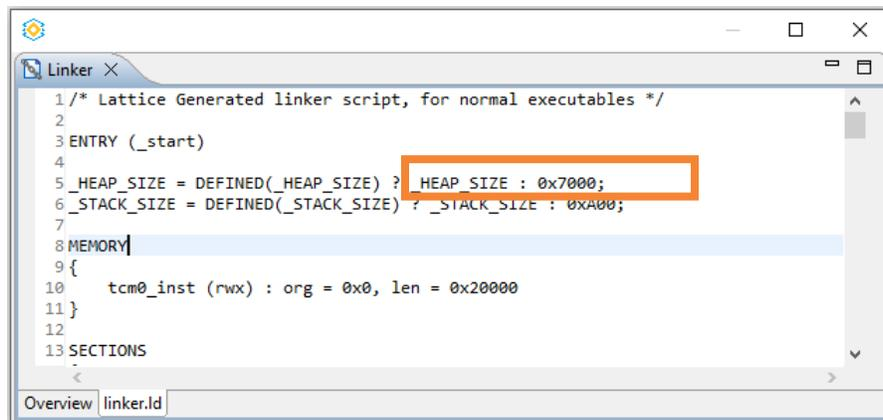

Figure 7.9. \_HEAP\_SIZE in Linker Script File
8. Open file `linker.ld` in the `src` folder. Set an enough value for `_HEAP_SIZE` (Figure 7.9).